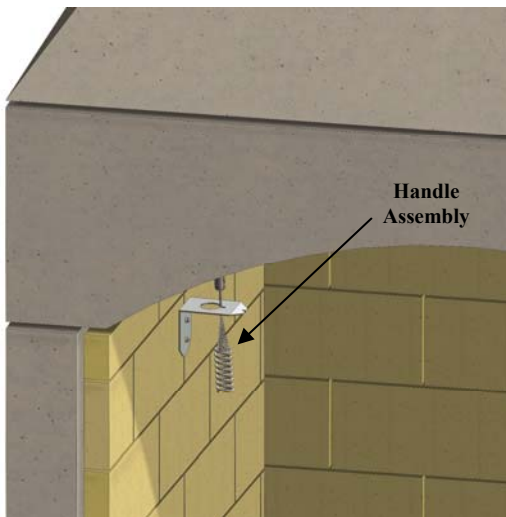

Figure 31. Bracket and Handle Assembly
D. Insert the pull cable through the bracket and adjust the length per damper manufacturer's instructions. Attach handle assembly to the bracket and check damper for proper operation. See Figure 31.